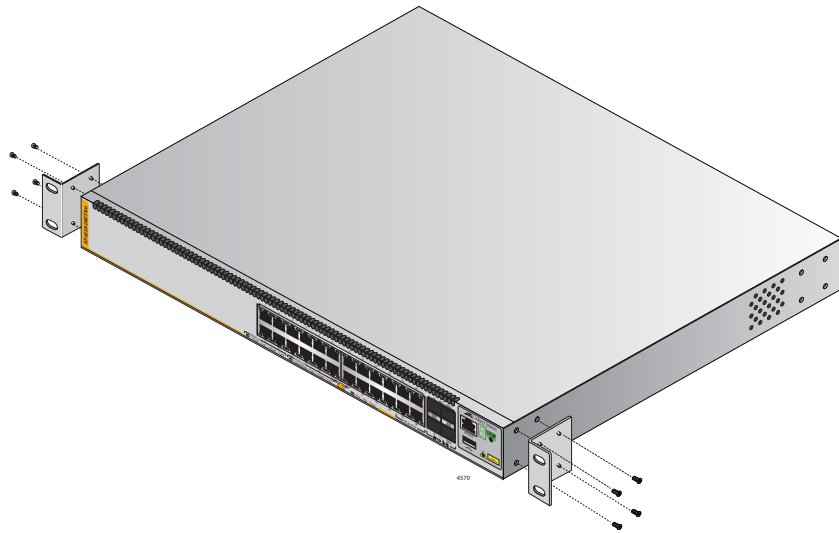

Figure 27. Example of Attaching the Brackets to the Switch
2. Attach the two brackets to the sides of the switch in the selected position, using the eight M4x6mm screws supplied with the unit. The illustration in Figure 27 shows the installation of the brackets such that the front panel of the switch is even with the front of the equipment rack.